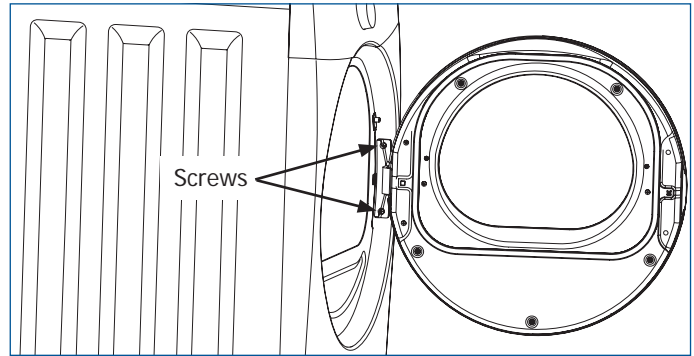

Figure 2-17.
2. Open dryer door and remove the two hinge screws. Remove lower screw first, then upper screw. (See Figure 2-17)